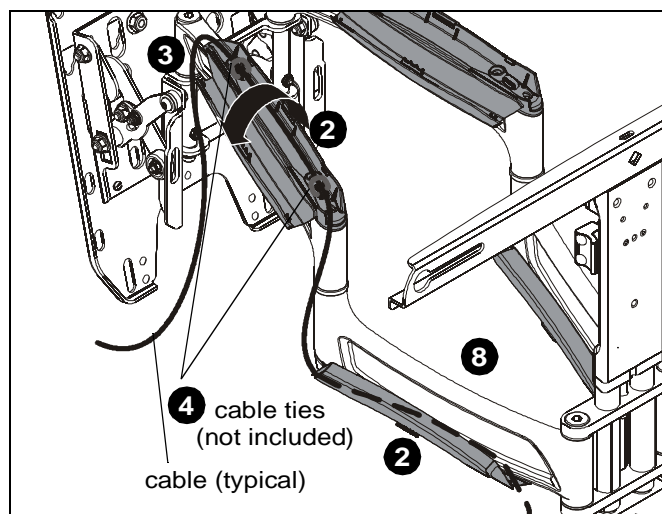

Figure 28
3. Route cables on top of upper arm. (See Figure 28)
4. (Optional) Use cable ties (not included) to secure cables to upper arms by threading ties around cable and through cable tie holes on arms. (See Figure 28)
5. Close upper cable management cover. (See Figure 28)
6. Route cables under lower portion of swing arm. (See Figure 28)
7. (Optional) Use cable ties (not included) to secure cables to lower arms by threading ties around cable and through cable tie holes on arms. (See Figure 28)
8. Close lower cable management cover. (See Figure 28)